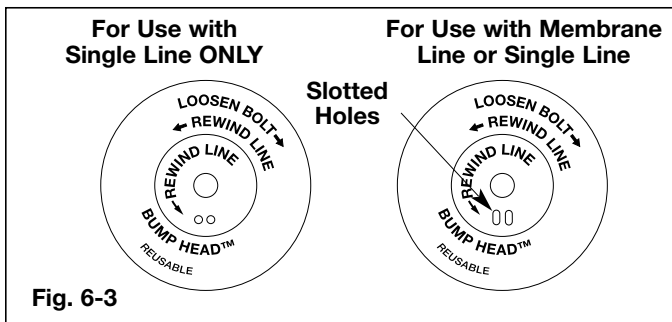

Fig. 6-3
**NOTE: Membrane line can only be used with the inner reel with the slotted holes. Single line can be used on either type of inner reel. Use figure 6-3 to identify the inner reel you have.**